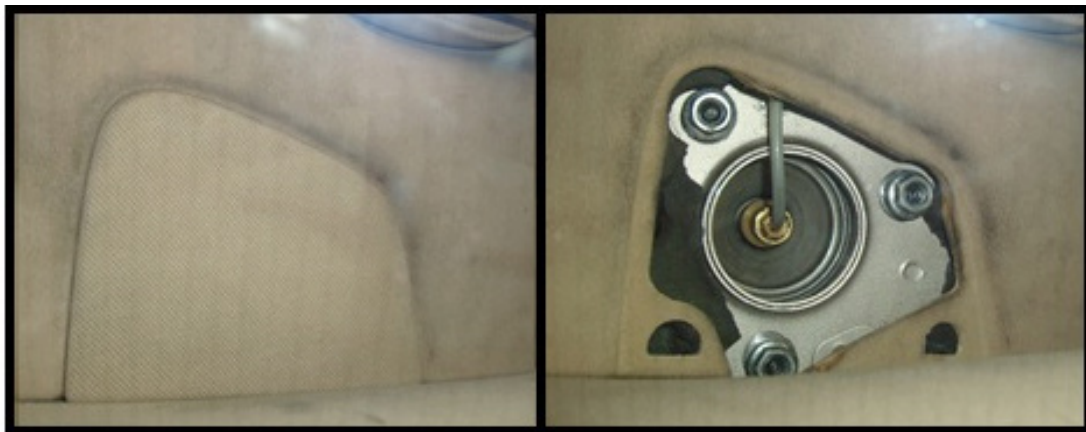

FIGURE 12
2. REMOVE THE SIDE COVER OF THE REAR DASH PANEL TO EXPOSE THE TOP OF THE AIR STRUT (LOCATED IN THE REAR WINDOW AREA). (FIGURE 12)